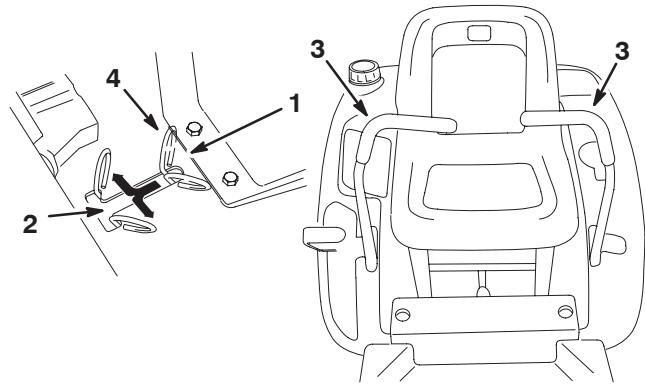

Figure 4
- 5. Lift the seat and move the two bypass levers forward and then outward to lock them in place as shown in Figure 4. Place the motion control levers in the center, unlocked position. Manually push the unit to the desired location. Never tow the Toro TimeCutter Z.